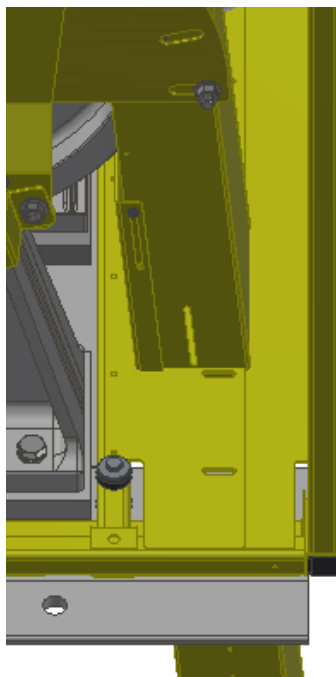

Figure 18: Machine Guard Rope Filler Panel Modification.
- It may be necessary to modify the Machine Guard Rope Filler Panels (p/n _ _-241) depending on the roping configuration. The Machine Guard Rope Filler Panels (p/n _ _-241) can be notched to clear the Ropes and/or Rope Guards if applicable as shown below (Figure 18).